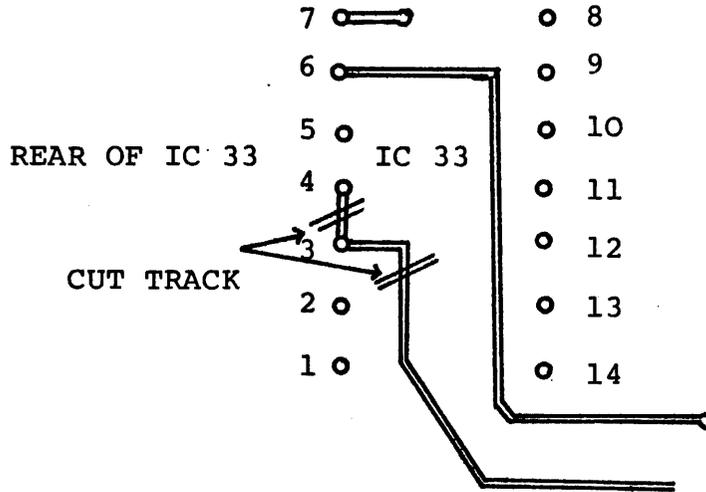

FIGURE 4.
10. Cut the etching on the non-component side of the board at the rear of IC 33 (location D6) as shown in figure 4.